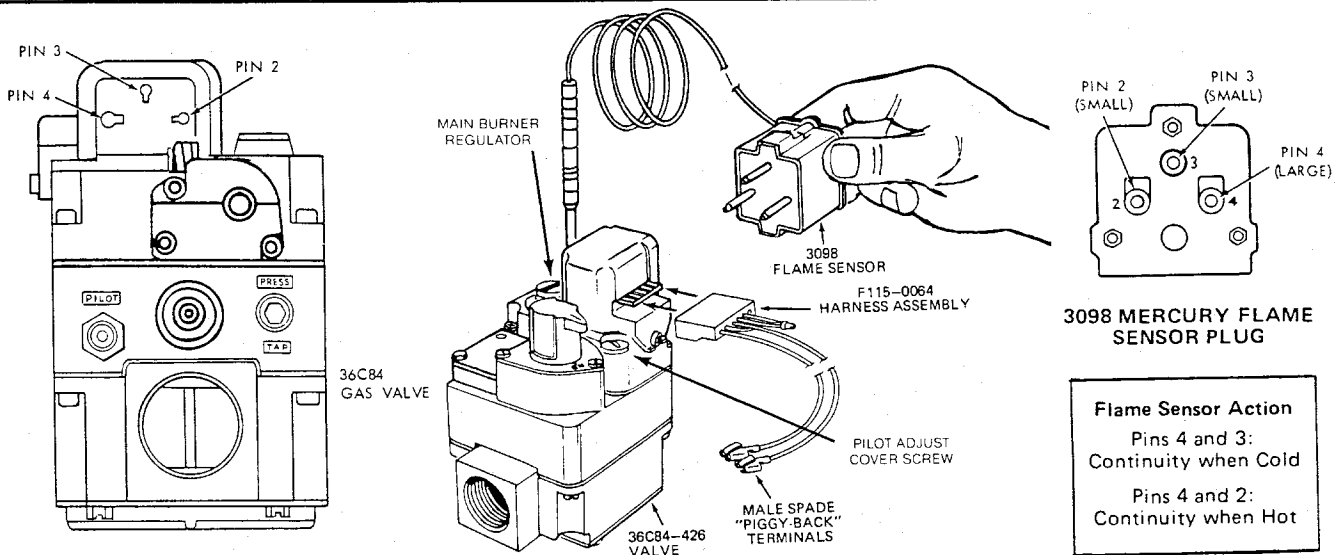

Figure 18
20. Adjust the thermostat to its highest temperature setting, and test manifold pressure and adjust the pressure regulator to match original input as required. See Fig. 18 for location. (The pressure determined in step 9B of the Preinstallation inspection.) Follow instructions under pressure regulator setting.
To adjust the pilot gas pressure, remove the cover screw illustrated in figure 18. Turn the pilot adjust screw clockwise to REDUCE pilot pressure, counterclockwise to increase pressure. Be sure to replace, and tighten, cover screw.
- Remove regulator cover screw and turn regulator adjust screw clockwise () to increase pressure, counterclockwise () to decrease pressure. Adjust regulator for pressure specified in equipment rating plate. See Fig. 18.